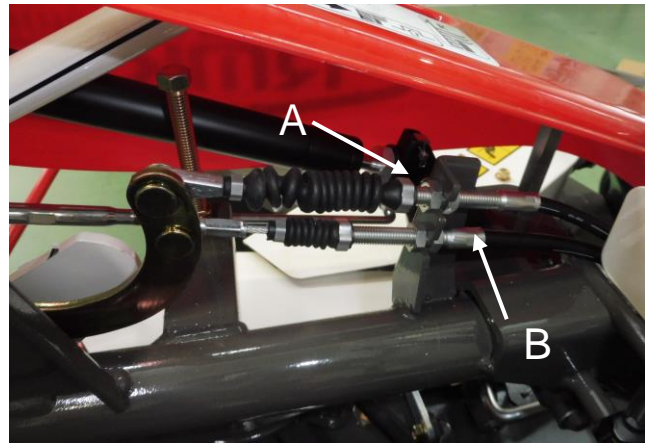

Figure 33
- If the belt is slipping, tighten the wire with the adjusting nut (B, Fig 33) until the wire spring start to be tightened.